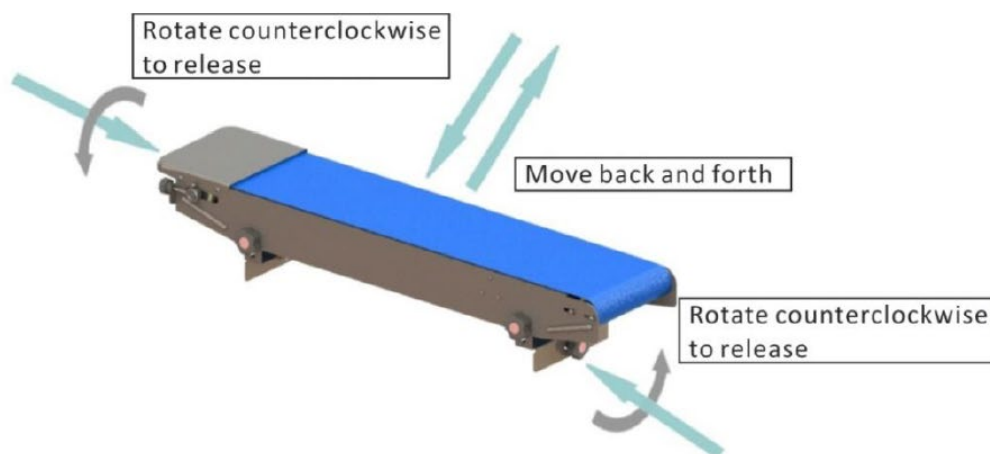

Figure 4. Adjusting conveyor forward or backwards
4. Adjust the conveyor position forwards or backwards. Refer to **Figure 4** for knob adjustments. For vertical configuration only, adjust the height of the band sealer appropriate for your bag to be sealed using the two flower knobs found on right and left support bars.